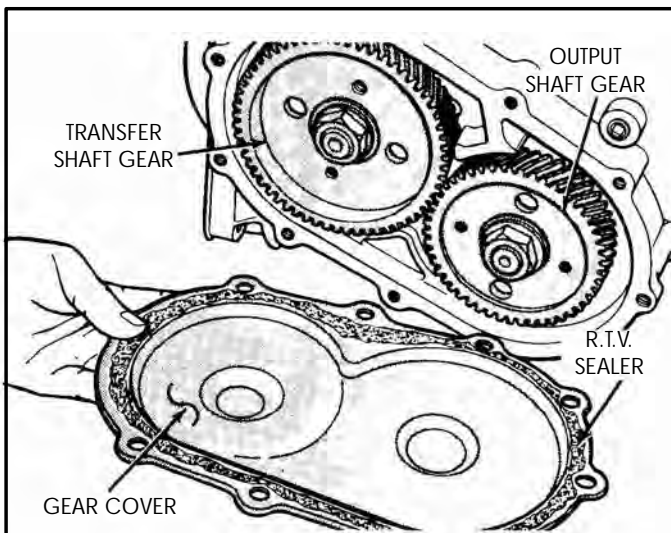

Figure 117
3. Remove the rear transfer gear cover and clean off the R.T.V. sealant (See Figure 117).